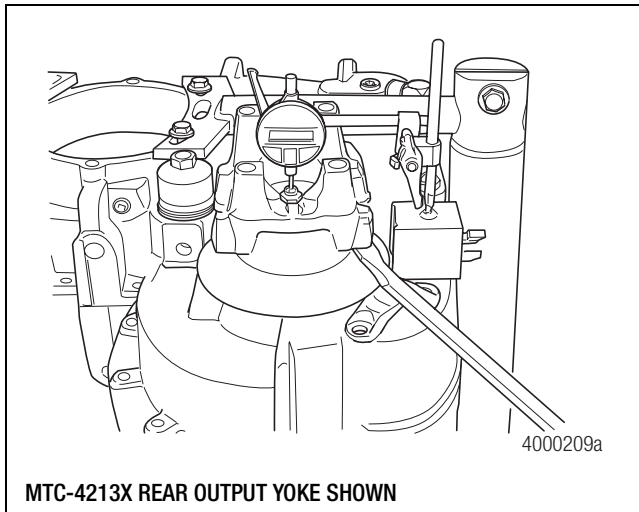

Figure 6.20
3. Use a dial indicator to check output shaft bearing end play. Center the dial indicator over the shaft using a ball bearing for accuracy. Figure 6.20.